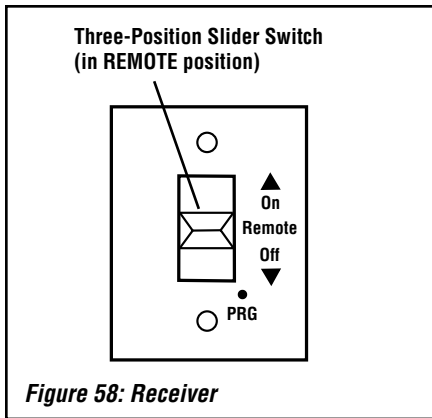

Figure 58: Receiver
Place the three-position slider switch in the "Remote" position (see **Figure 58, next page**). Using the end of a paper clip, or other similar object, insert the end of the paper clip into the hole marked "PRG" on the Receiver front cover. The Receiver will "beep" three (3) times to indicate that it is ready to synchronize with a Transmitter.